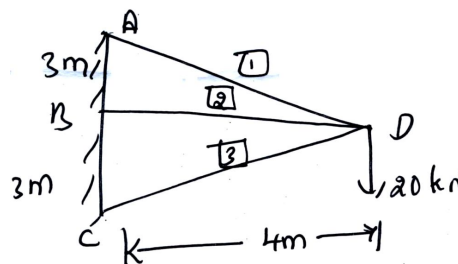

Fig.Q.10
- 10 Determine the forces in all the members of the plane truss shown in Fig.Q.10 by direct stiffness method EI is constant. (20 Marks)